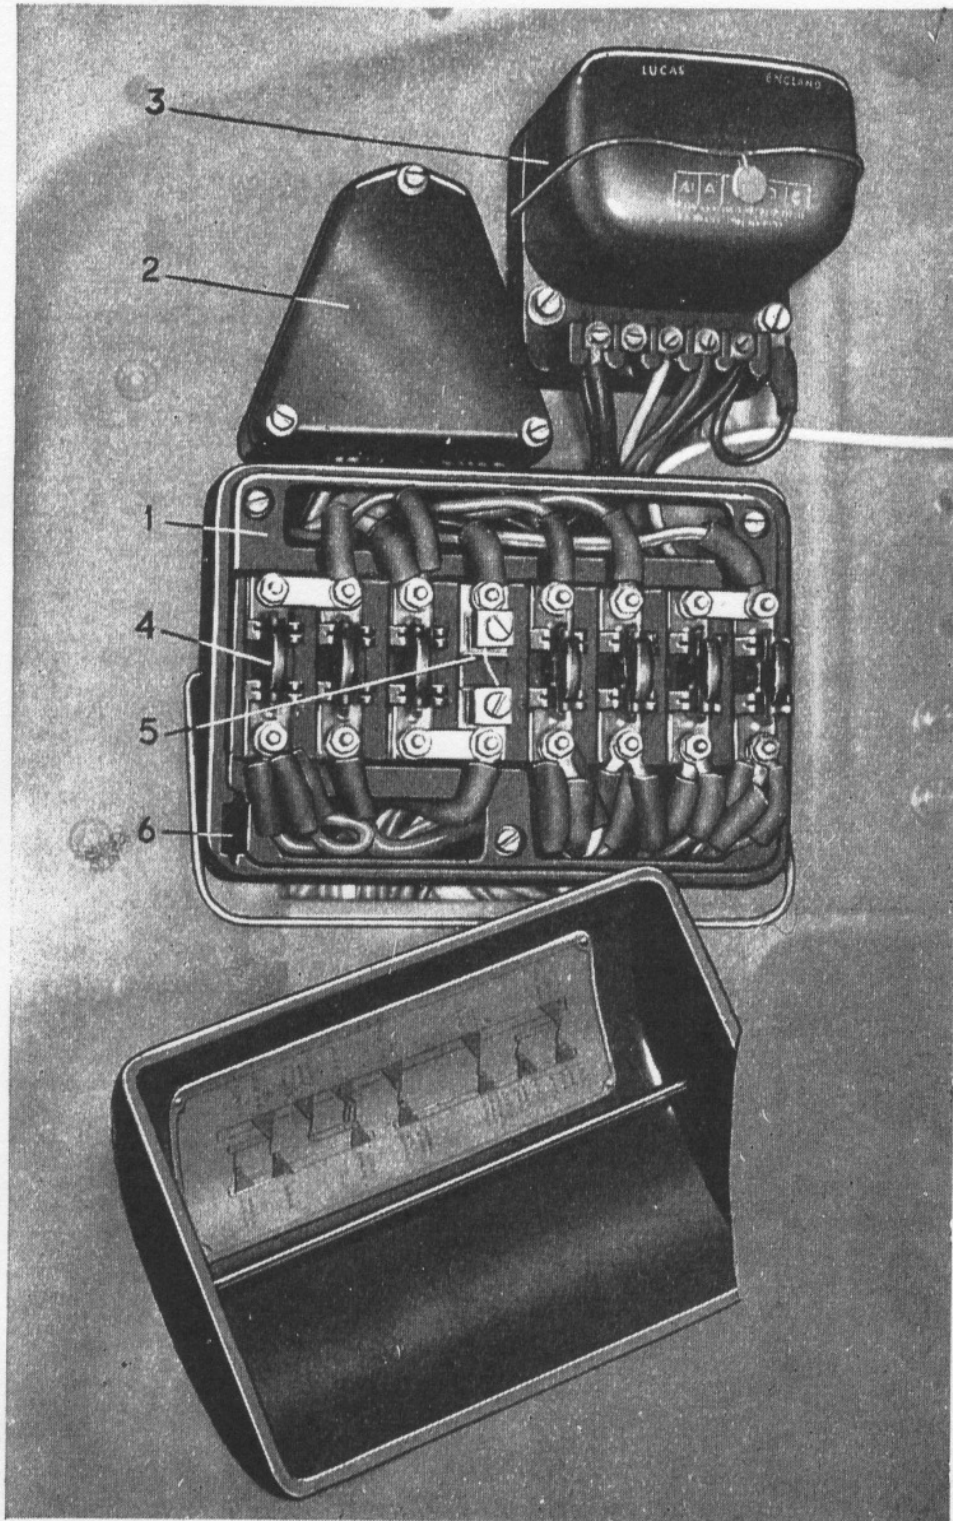

Fig. 38.—FUSE BOX, CONNECTING BOX, OUTPUT REGULATOR AND CUT-OUT
The unit is shown in Fig. 38, with its cover removed.
The output regulator and cut-out are mounted on the front of the dashboard, and are shown (3, Fig. 38).
1. Connect the NEGATIVE lead, by means of a clip, to the main fuse terminal in the fuse box (Fig. 38).